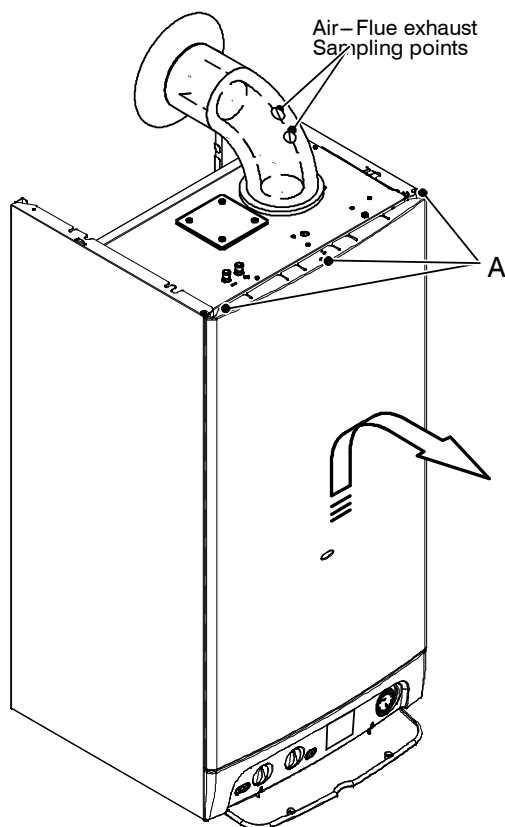

Fig. 9.1
- 1 Loosen the three screws A (Fig. 9.1).
If it is necessary to carry out a combustion analysis remove the plugs indicated in Fig. 9.1.